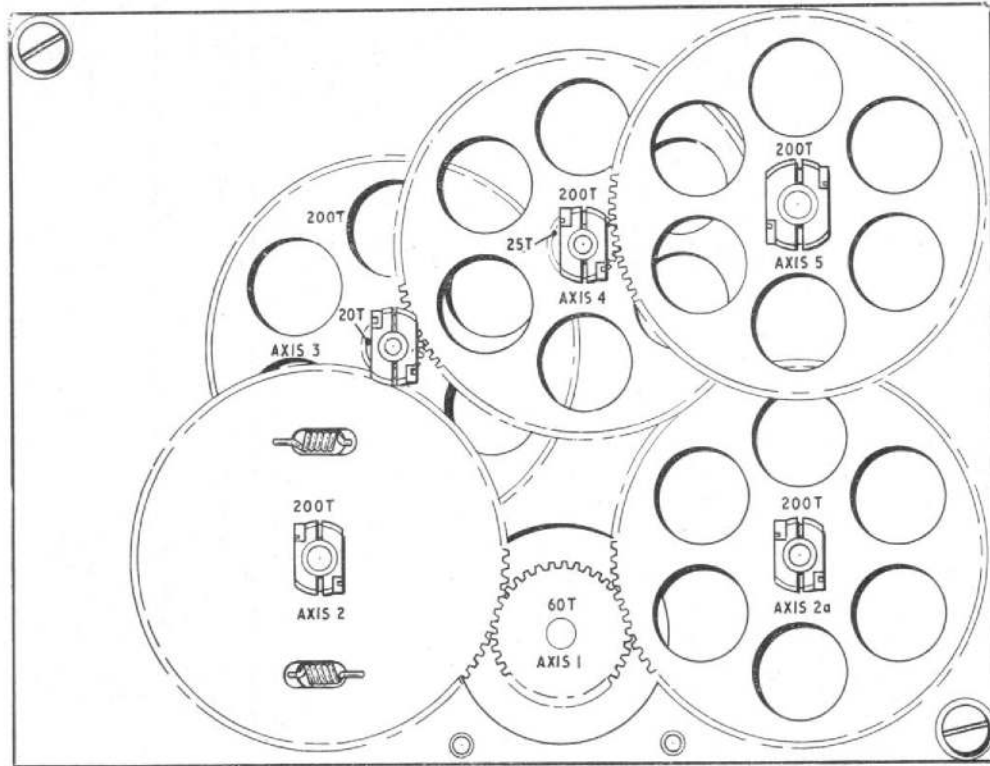

Fig. 8. Rate of climb gearbox (G2)—underside (pre-mod. ADS/80)
**32.** Connect the wander lead to pin 27 of the gearbox tagboard, set T4 on test set, Type 9B to 4430, set the dividing box to 0025 and check that the valve voltmeter registers a null. If necessary release the screws clamping RV11 (Chap. 7, fig. 8) and rotate RV11 to obtain this null. Reclamp RV11, ensuring that the meter remains at the null whilst doing so.
70. Switch the meter to the 100V range and rotate the 200T gear of axis 2a (fig. 8) clockwise by hand to increase the meter reading to 40V. To achieve this it should not be necessary for the 60T pinion of axis 1 meshing with the 200T gear of axis 2a to rotate more than 2 revolutions. Allow the servo unit to return to the null and with a soft pencil mark the position of the 200T gear of axis 2a.